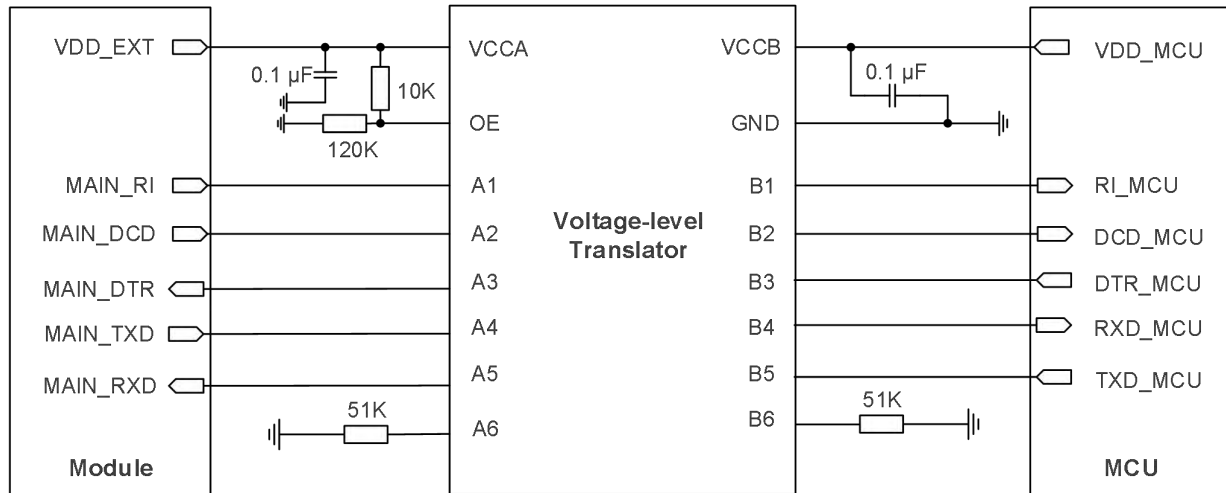
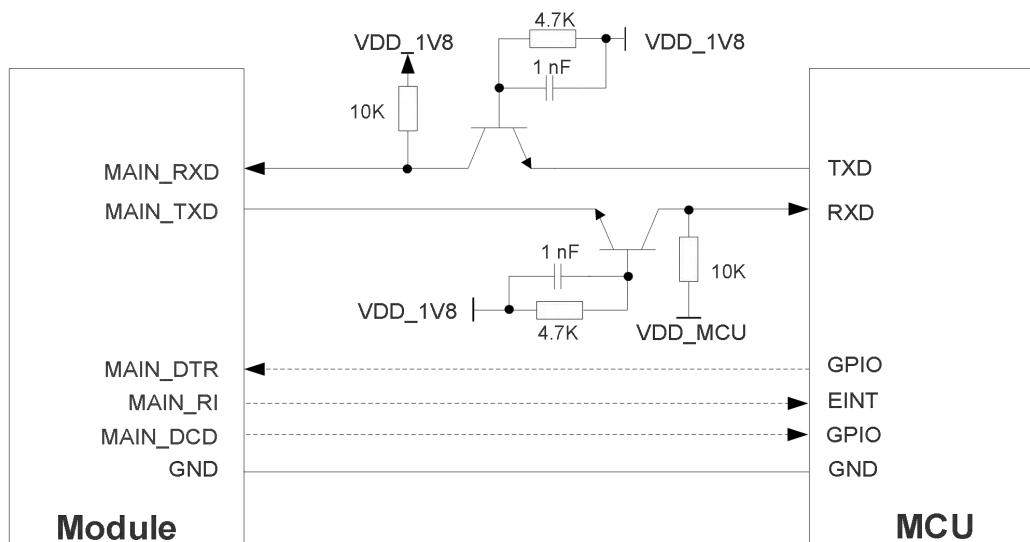

Figure 23: Reference Design with Translator Chip (Main UART)
Figure 24: Reference Design Transistor Circuit (Main UART)
3. The level-shifting circuits (**Figure 23** and **Figure 24**) take the main UART as an example. The circuits of the debug UART and the Bluetooth UART are connected in the same way as the main UART.